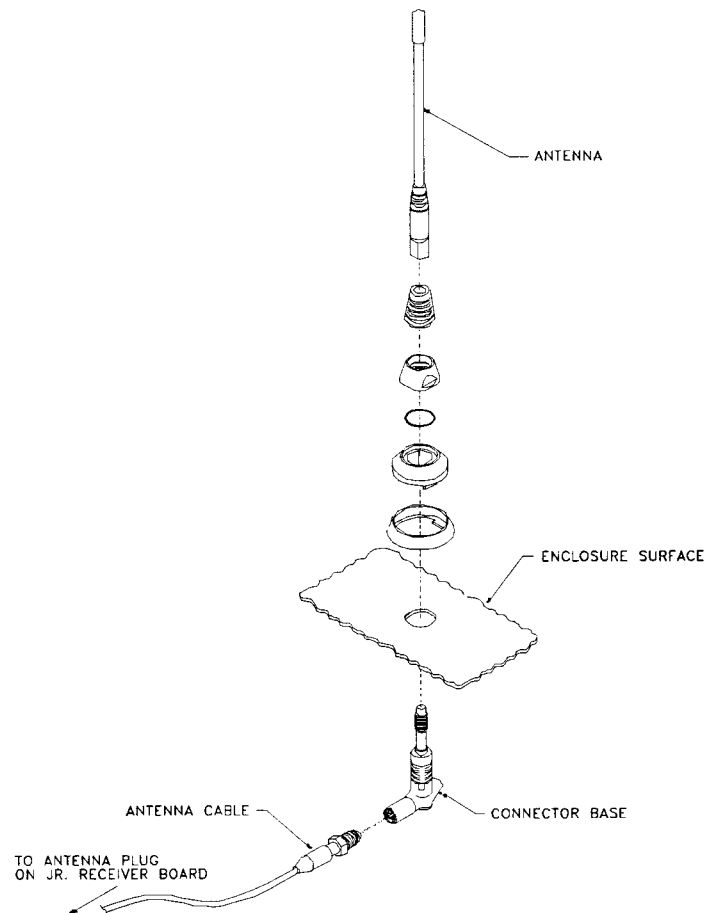

Figure 2.10: PulseStar•jr. External Antenna
3. Use the Figure 2.10: PulseStar•jr. External Antenna to assemble an external antenna.